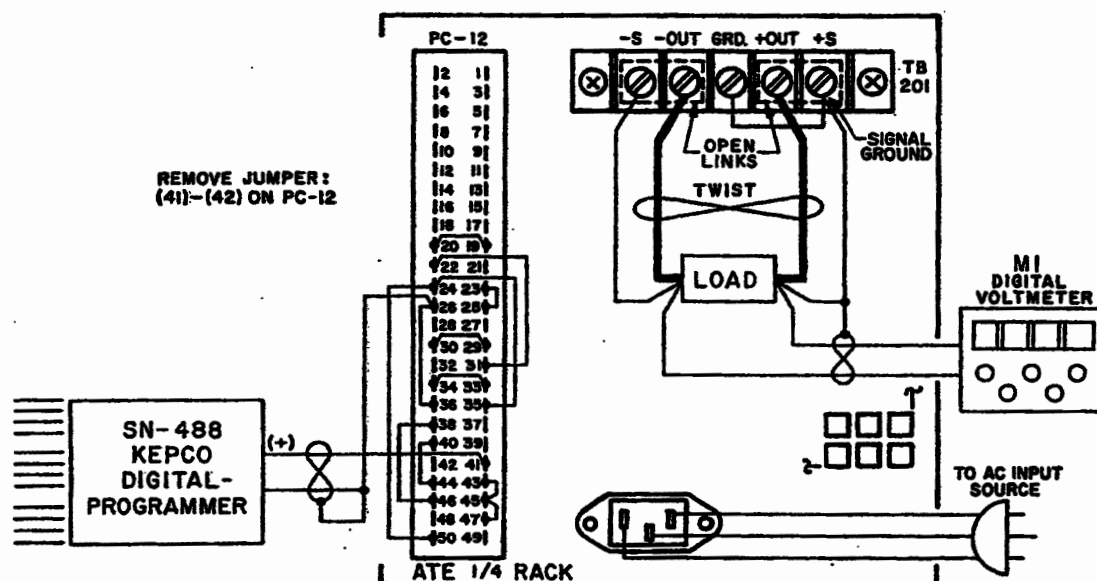

FIG. 3-6 OUTPUT VOLTAGE CONTROL WITH AN EXTERNAL (0-10V, 1 mA) D-C CONTROL SIGNAL.
3-38 GENERAL. The ATE output voltage which is controlled by a front panel VOLTAGE CONTROL in the Local control mode, can be remotely controlled by disconnecting the internal VOLTAGE CONTROL AMPL at the REAR PROGRAMMING CONNECTOR (PC-12) and substituting an external control signal at the input of the VOLTAGE COMPARISON AMPL with reference to the PROGRAMMING COMMON. For this "direct drive" method of voltage control, the control signal must be a positive going 0-10 volt d-c voltage source, able to supply at least 1 mA of control current. An application, demonstrating this control method is described in PAR. 3-41, and illustrated in FIG. 3-6.
- 1) Connect the EXT. CONTROL VOLTAGE, (SN-488 DIGITAL PROGRAMMER), the LOAD and the PRECISION VOLTMETER (M1) to the ATE as shown in FIG. 3-6.